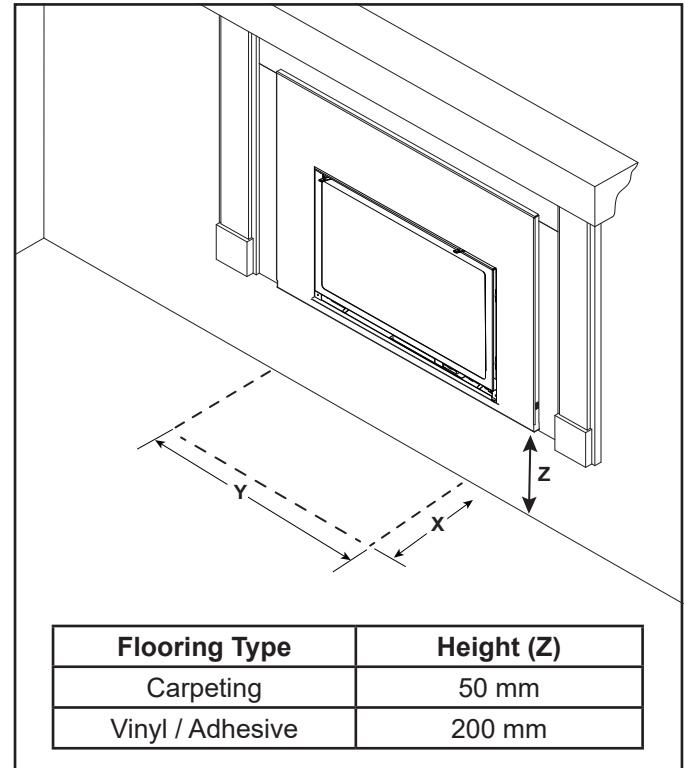

Figure 8.6 Hearth - Minimum Height for Vinyl / Adhesive or Carpeting Flooring
- Carpeting is acceptable in front of the appliance when the appliance is raised off the floor 2 inches (50 mm) or more. See Figure 8.6.